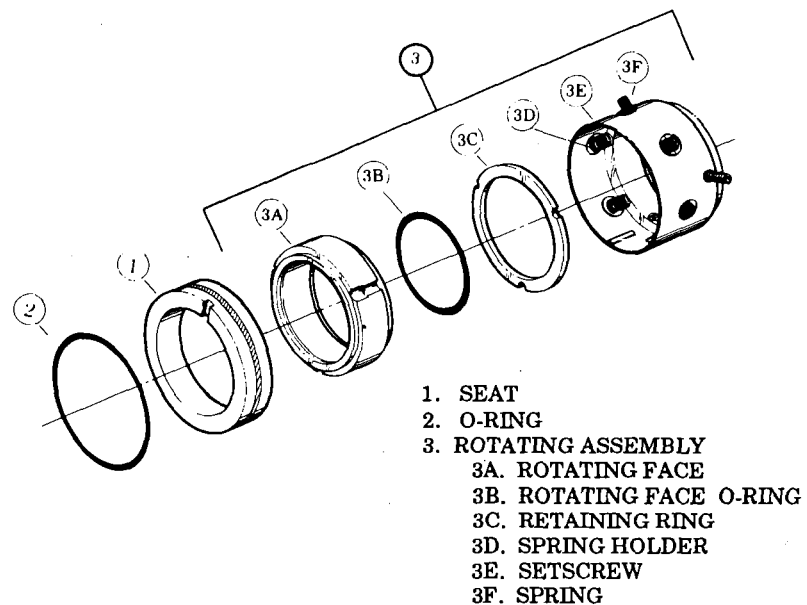

FIGURE 1. Borg Warner Type Q Mechanical Seal
- STEP 9. Remove bolts (027) and bearing retainer (026) from inboard cover (008).
- STEP 10. Remove assembled power rotor (017). Removal of power rotor (017) includes removal of truarc rings (023), ball bearing (025), spacer (021), spring pin (022), and mechanical seal (019). NOTE: Piston (018) furnished as part of power rotor (017) sub-assembly and is not serviced separately.
- STEP 11. Disassemble power rotor (017) as follows:
- a. Remove outer truarc ring (023) from groove of power rotor. Press ball bearing (025) from power rotor (017). Remove inner truarc ring (023) from groove of power rotor.
- b. Remove spacer (021) from power rotor. NOTE: Removal of spacer (021) will also remove mechanical seal seat and O-ring (1 and 2, Figure 1) and spring pin (022). Remove mechanical seal seat (1, Figure 1) from spacer (021). Remove O-ring (2, Figure 1) from mechanical seal seat.
- c. Remove mechanical seal (019) rotating assembly (3, Figure 1) from power rotor (017) shaft by loosening setscrews (3E, Figure 1) and sliding rotating assembly off power rotor.
NOTE: Prior to assembly of pump, all parts should be cleaned and inspected for nicks and burrs. Replace all worn or damaged parts. The IMO Pump Division recommends automatic replacement of O-rings (003 and 064), gasket (024 and 036), Dyna Seal (005), mechanical seal (019) and ball bearing (025) when these parts are disturbed from their previously installed position. Refer to pump assembly drawings, Figures 2 through 4; mechanical seal drawing, Figure 1; and List of Material, Table 2, during assembly. Coat all parts with light lubricating oil to assist in assembly. Assembly procedures for Figures 2 through 4 are identical except when specifically noted.
- STEP 1. Install O-ring (003) in groove of housing (002). Install housing (002) in pump case (001) properly aligning housing with bore in case (001) for stop pin (006). Install stop pin (006) with Dyna Seal (005) in case (001).
STEP 6. Install O-ring (003) in groove of cover (008). Install assembled cover (008) on pump case (001) using bolts (015). Torque bolts (015) to 160 lbs. ft. (± 10 lbs. ft.).
STEP 7. Assemble power rotor (017) as follows:
- a. Slide rotating assembly (3, Figure 1) of mechanical seal (019) on power rotor next to piston (018). Tighten setscrews.
- b. Install O-ring (2, Figure 1) on mechanical seal seat (1, Figure 1). Install seat and O-ring (1 and 2, Figure 1) in spacer (021) ensuring that spring pin (022) is positioned to engage slot in seal seat (1, Figure 1).
- c. Install assembled spacer (021) on power rotor (017).
- d. Install inner truarc rings (023) in groove of power rotor (017).
- e. Press ball bearing (025) on power rotor (017), pressing only on inner race of bearing.
- f. Install outer truarc ring (023) in groove of power rotor (017) to retain bearing.
- g. Install gasket (024) in bore of end cover (008).
STEP 8. Install assembled power rotor (017) in pump, centering each part as it enters cover (008).
STEP 9. Install bearing retainer (026) on inboard cover (008) using bolts (027). Torque bolts (027) to 35 lbs. ft. (± 5 lbs. ft.).